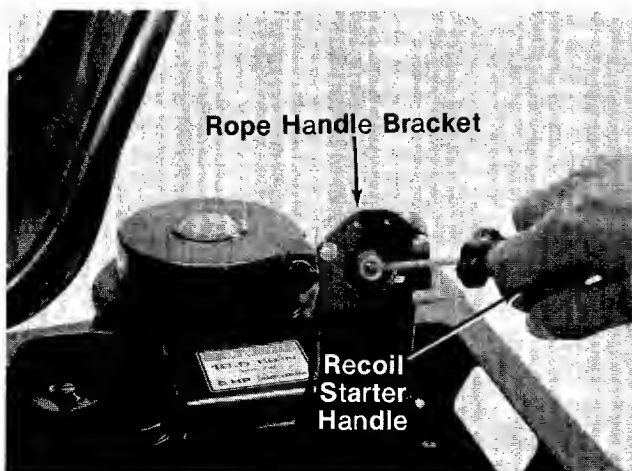

FIGURE 22.
The recoil starter handle is located on the left rear side of rider. The recoil starter handle can be pulled while standing by the left rear side of unit. The ignition key must be on before the engine will start. After the engine starts, the recoil starter handle must be returned and locked into the rope handle bracket before the blade or clutch is engaged. The engine will stop if these instructions are not followed. See figures 22 and 23.
6. a. **Recoil Model.** Turn the ignition key to the "ON" position. Twist the recoil starter handle until it is free and pull it with a quick steady motion. After the engine starts, return the recoil starter handle and twist it until it locks. See figure 22.